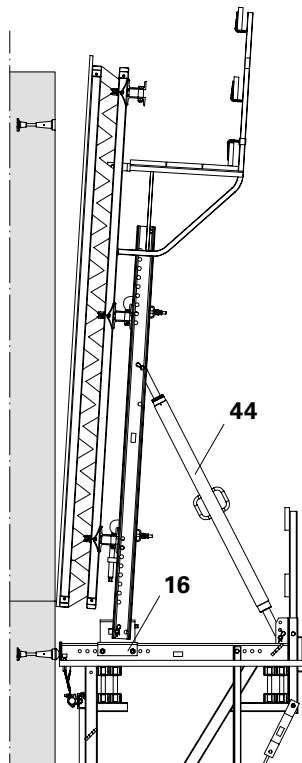

Fig. B1.15
2. Loosen Adjusting Unit CB 160 (16).
3. Tilt formwork using Adjustable Brace CB 164-225 (44). (Fig. B1.15) In doing so, the nails from the Anchor Positioning Studs M24 (40) and box outs are pulled out of the formlining or at least loosened.